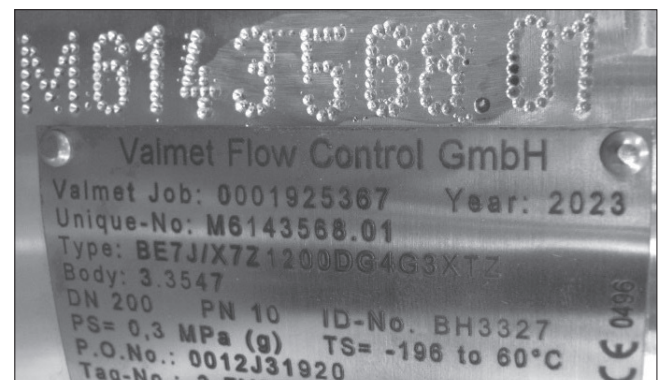

Fig. 4 Identification plate and pressure/flow direction
The CE sign is displayed on the identification plate (see Figure 4: identification plate).
- Unique / Identification number of the valve (from identification plate – see Figure 4)